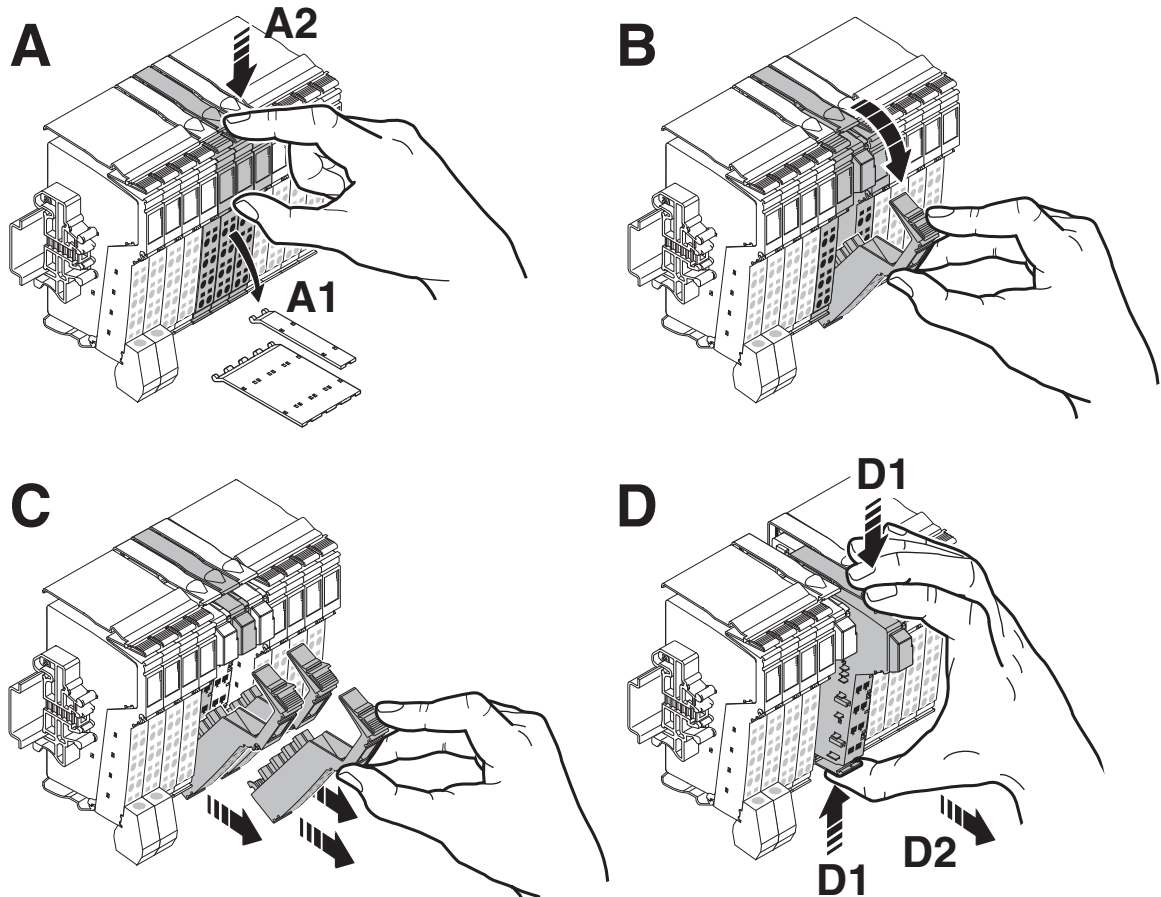

Figure 10-13 Removing a terminal
When removing a terminal, proceed as shown in Figure 10-13 on page 116:
- If adjacent terminals belong to the 24 V DC or 120 V AC/230 V AC area: Remove the adjacent connectors of the neighboring terminals (Figure 10-13 on page 116). This prevents the potential routing knife contacts and the keyway/featherkey connection from being damaged.